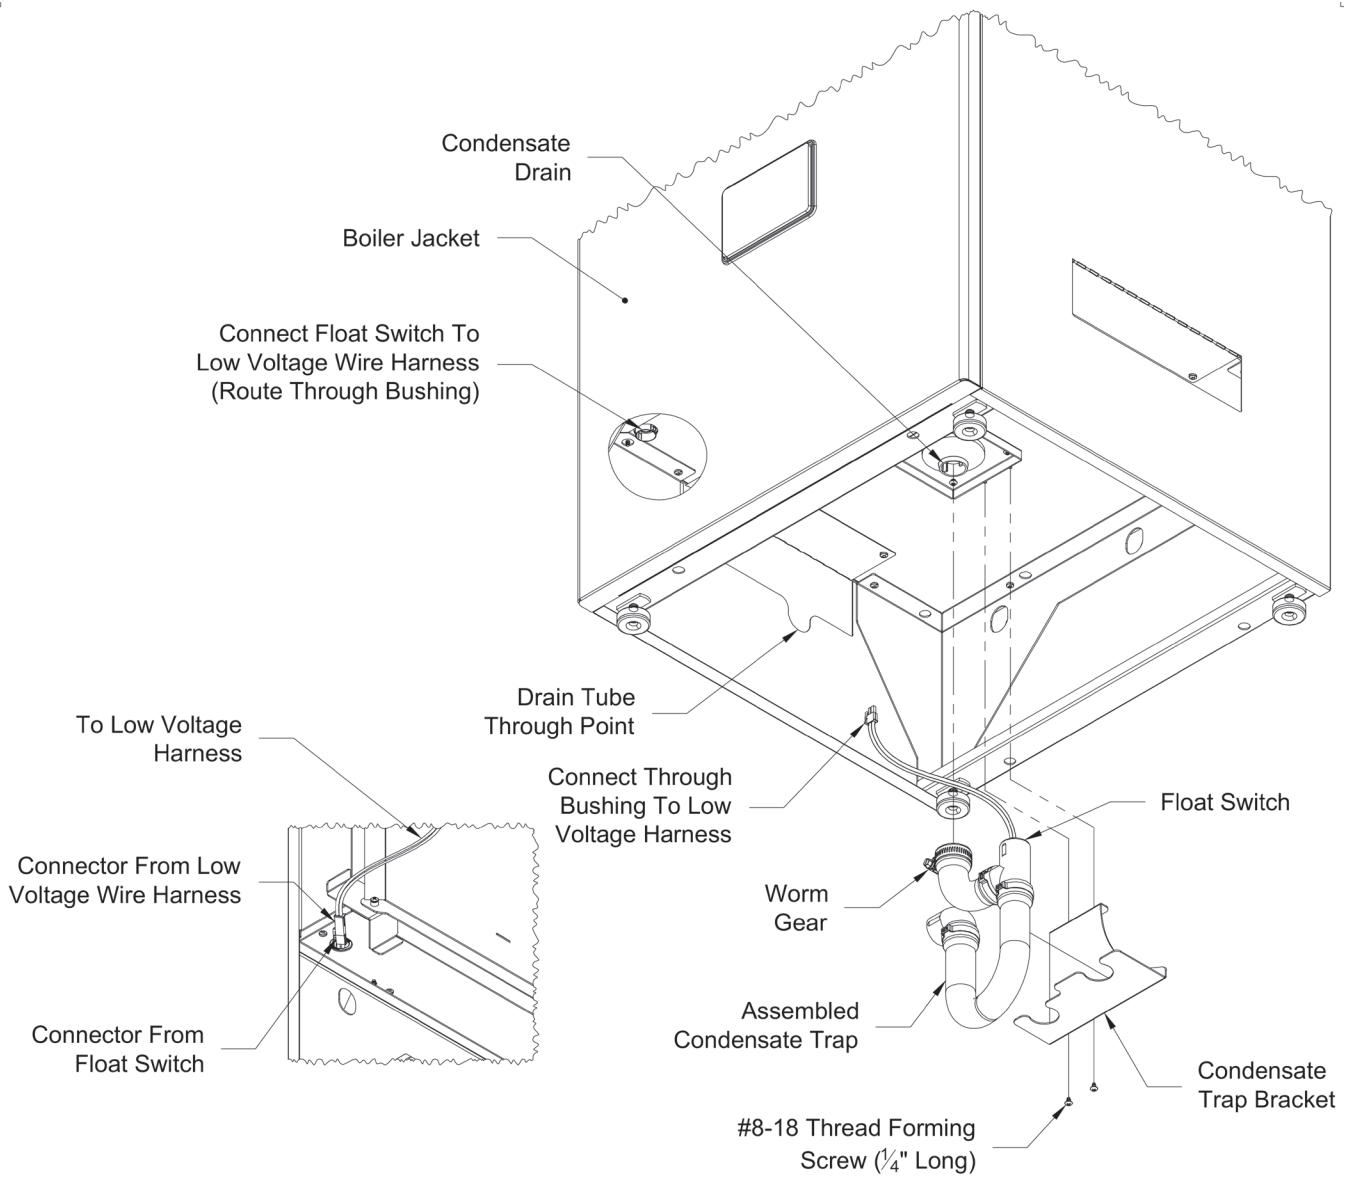

Figure 13.4: Condensate Trap Exploded Parts View
- q. **Inspect and clean the condensate trap**. Inspect condensate trap to verify it is open and free from debris. If needed, remove trap from heat exchanger and hanging bracket. Flush any debris found in the trap with water – do not use other cleaning agents. Reassemble the trap as shown in Figure 13.4.